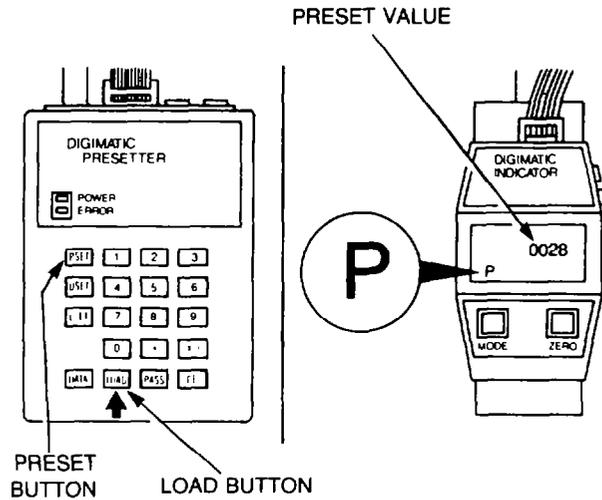

Figure 120 — Digimatic Presetter
- g. Press the preset button on the digimatic presetter and enter the fixture preset value in inches using the number keys on the presetter. The digimatic indicator will now show the preset value and the letter P (see Fig. 120).